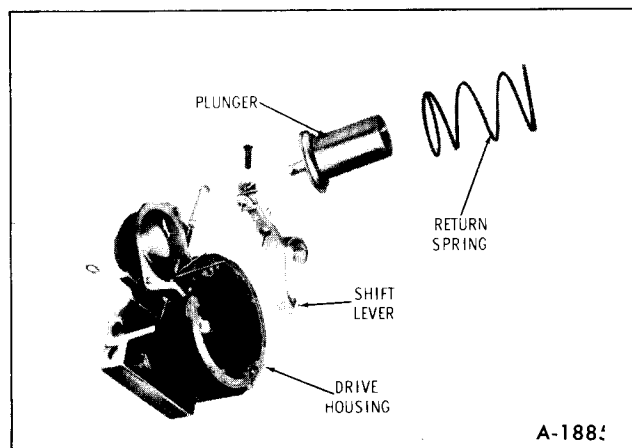

Figure 46-Shift Lever Removal
- b. To remove shift lever and/or plunger, remove shift lever pivot bolt (figure 46).
drive gear housing and install lever pivot bolt. (figure 46)